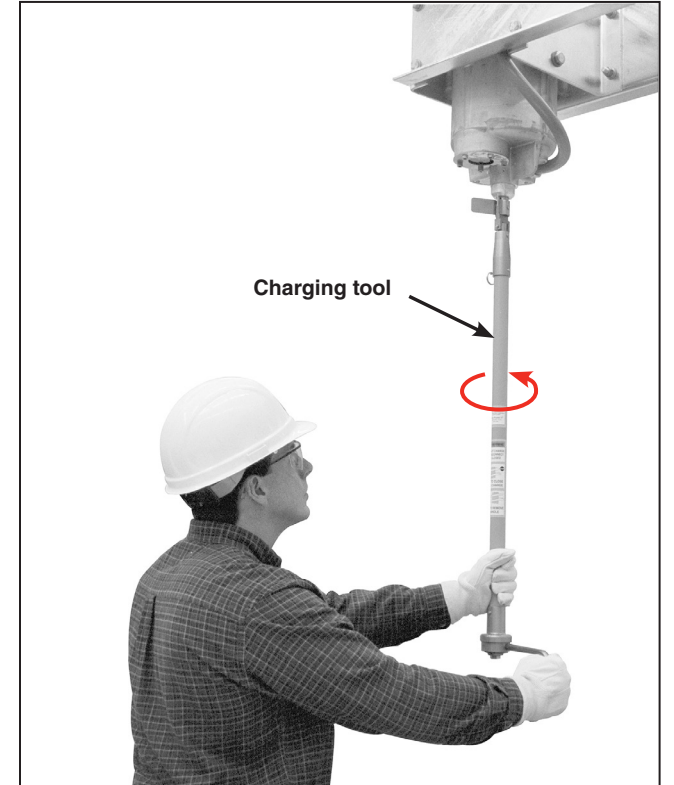

Figure 17. Rotate the tool handle counterclockwise until the internal stop is reached.
STEP 8. Rotate the charging tool handle *counterclockwise*, as indicated on the tool, to close and charge the pole-unit. See Figure 17. Approximately 40 revolutions are needed. Keep turning until the internal stop is reached. The torque limiter will slip after this point. The charging tool cannot be removed until Step 8 has been completed, so **DO NOT** attempt to remove the tool at this time.